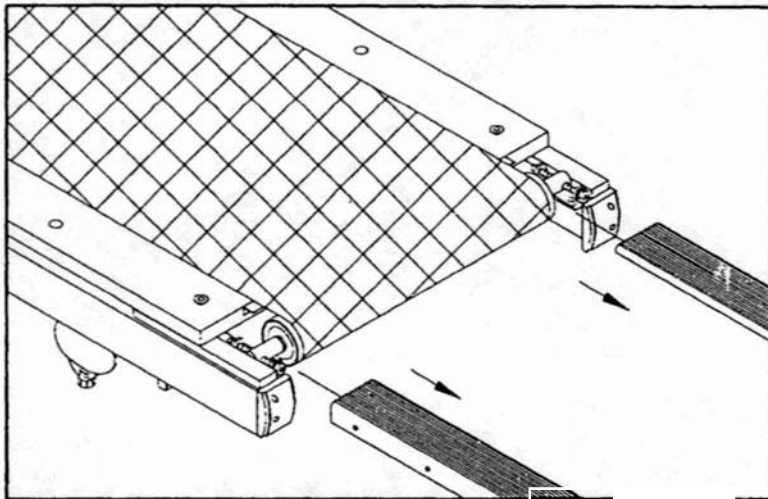

Fig.2
2. Pull out the staging platform. (see Fig.2)